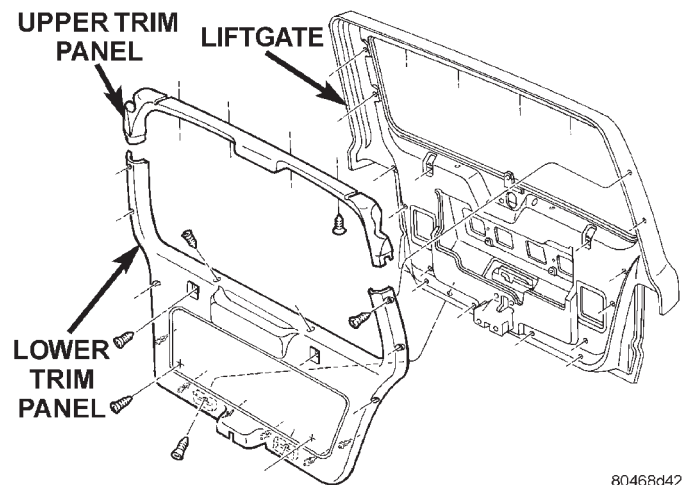

Fig. 7 Liftgate Trim Panel Remove/Install
(1) Disconnect and isolate the battery negative cable.
(2) Remove the screws securing the liftgate lower trim panel to the liftgate (Fig. 7).